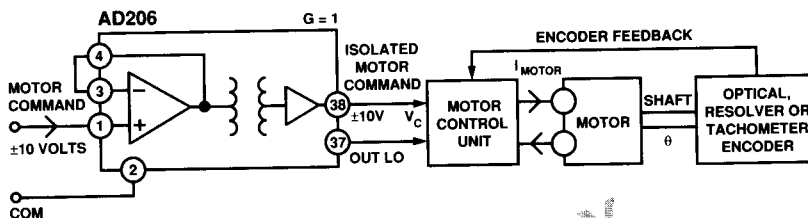

Figure 20. Using the AD206 in a Motor Control Application
**Motor Control.** Figure 20 shows an AD206 used in a dc motor controller application. The excellent phase characteristics and